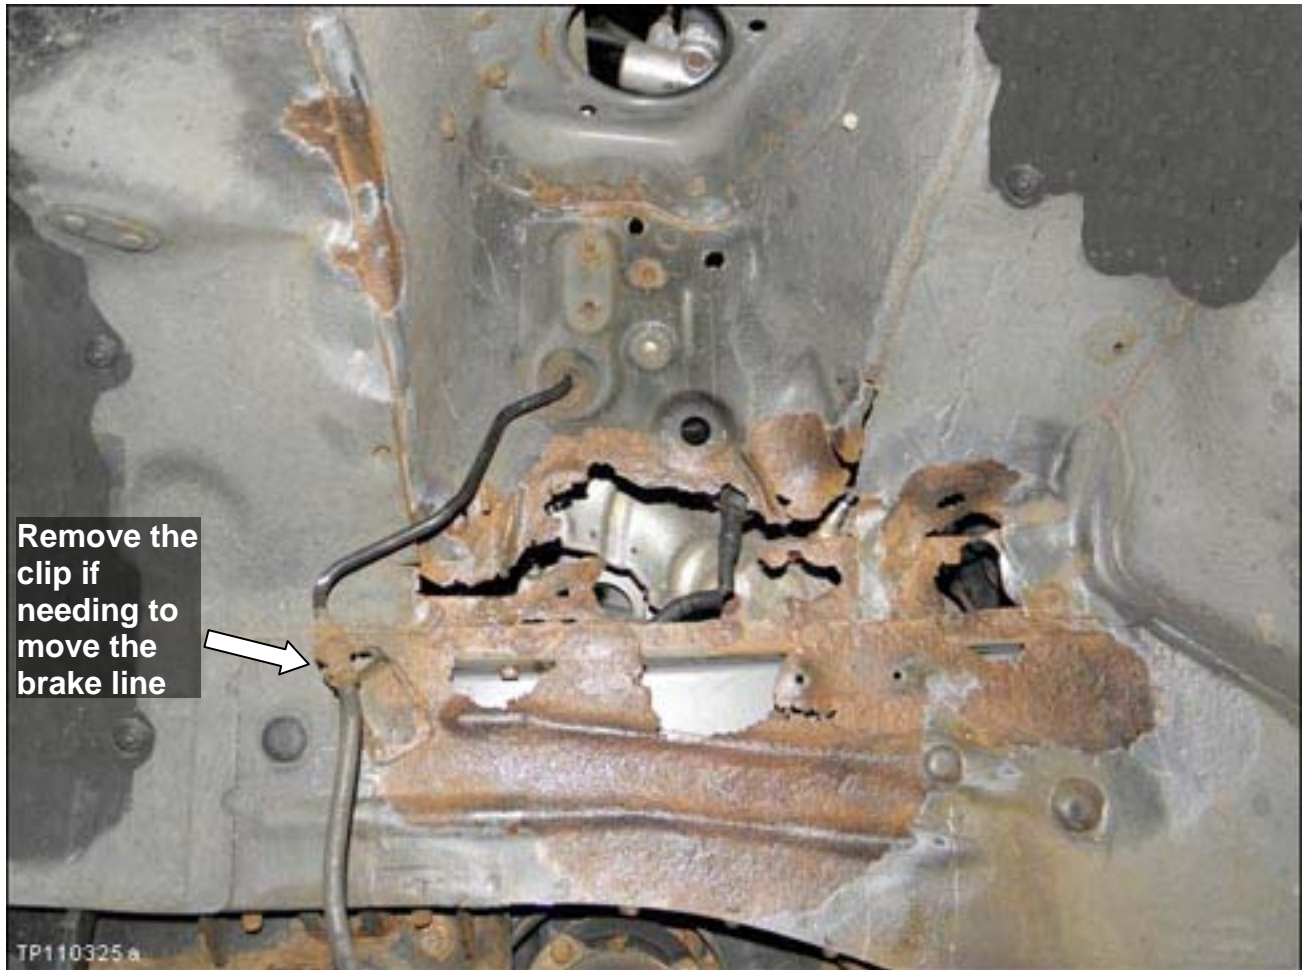

Figure RB3
4. Clean all the loose rust from the strut housing and wheel house areas (see Figure RB3).